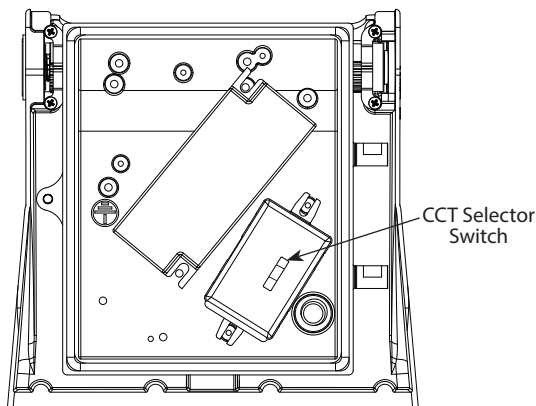

Fig: 12
2. Lift **Housing** cover and locate **CCT Selector Switch** in **Housing** as shown in **Fig. 12**.